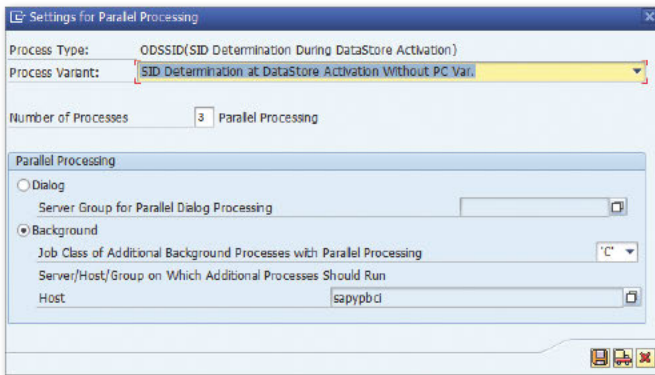

Figure 2 Settings for Parallel Processing
6. Click on the CHANGE PROCESS PARAMS. option in the PARAMETER FOR ACTIVATION section, and a new popup window (see Figure 2) opens that allows some key settings for parallel processing of the activation job. This setting is also specific to your system and will determine how many parallel processes will be dedicated for this activation job. For mass data loads with an expected number of millions of records, you may set this parameter to a higher value, for example, 5 or 6, and for smaller loads you can set this parameter to a smaller value of 2 or 3.3.